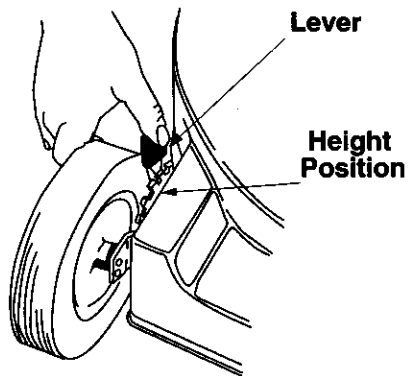

Figure 10
2. Place all four wheels in the same relative position. See Figure 10.